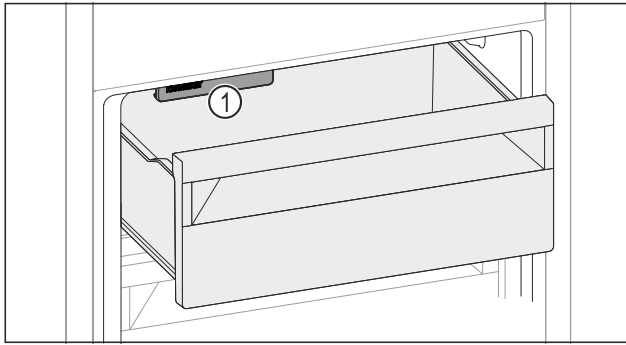

Fig. 144
- ▶ Watch out for the IceMaker Fig. 144 (1).